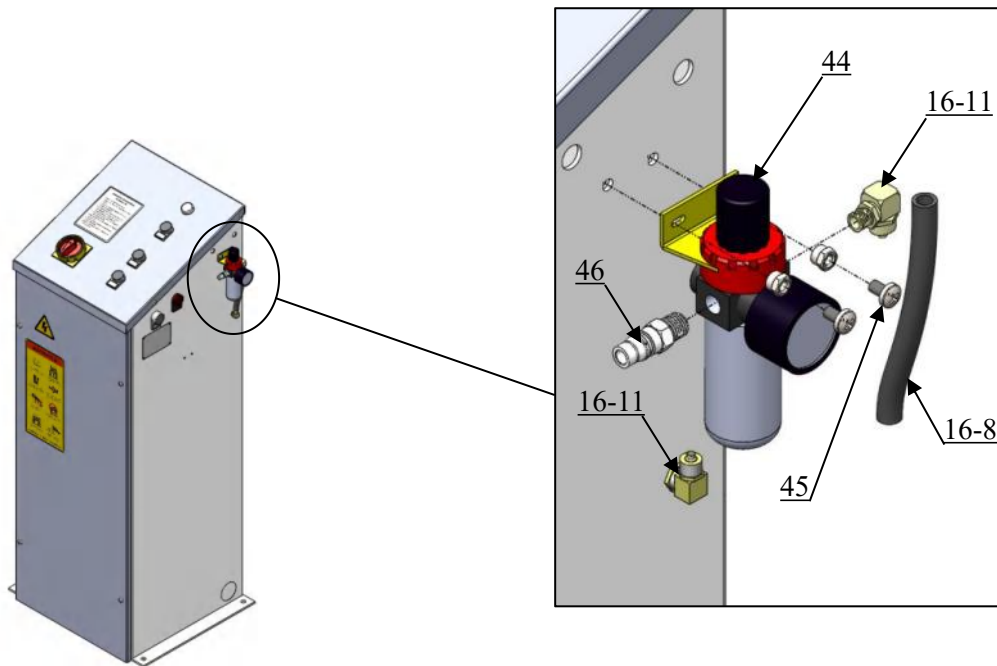

Fig. 14
4. Install the oil-water separator. (See Fig. 14)